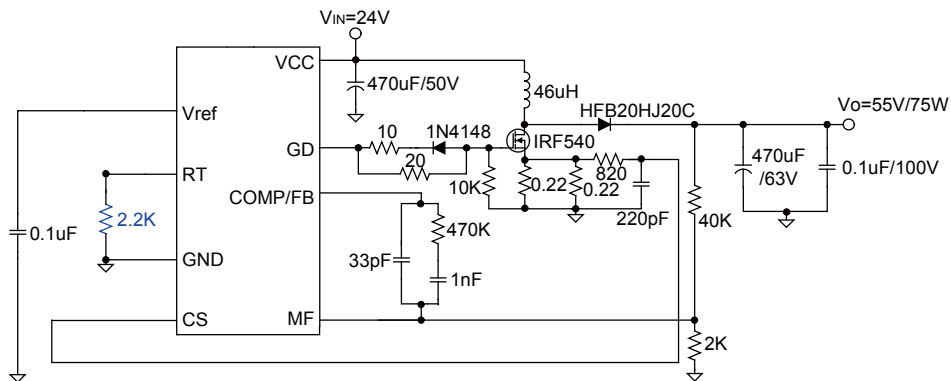

Figure 8 Constant Voltage Boost Application (DC-DC Boost)
A Constant Voltage (CV) Boost application circuit is shown in Figure 8. This circuit can be used with DC inputs of 16~24V and provides a DC output of 55V  $\pm$  5% with an output power level of 60~70W. The output power level can be changed by choosing a suitable inductor value and power MOSFET, while the output voltage can be changed by choosing a suitable feedback resistor ratio.